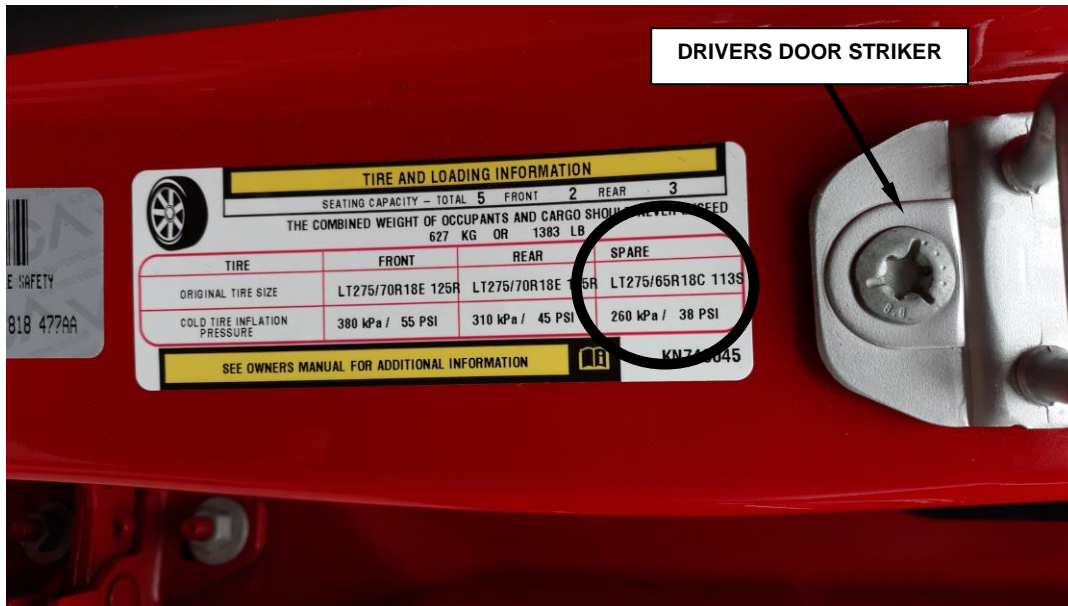

Figure 1 – Tire and Loading Information Label
1. Open the driver’s door and obtain the “Spare” tire size number on the label (Figure 1).